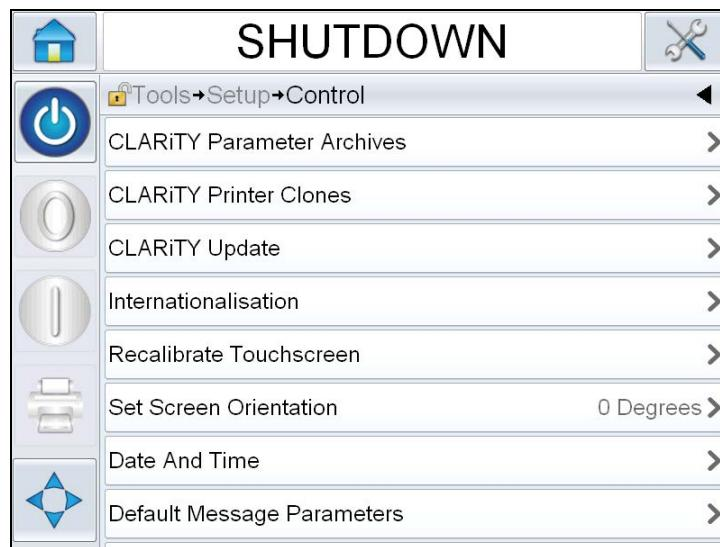

Figure 5-21: Control Page
- 2 Navigate to *Tools > Setup > Control* (see Figure 5-21).